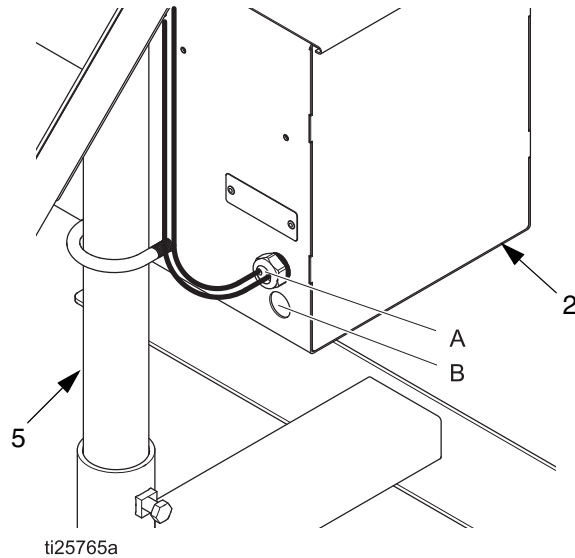

FIG. 6 Control Box Connections (external)
1. Insert the cord grip (A) into an open hole on the control box (2), and secure the cord grip using the included nut. See FIG. 6.
2. Connect the conduit included on the pump through hole B. See FIG. 6.